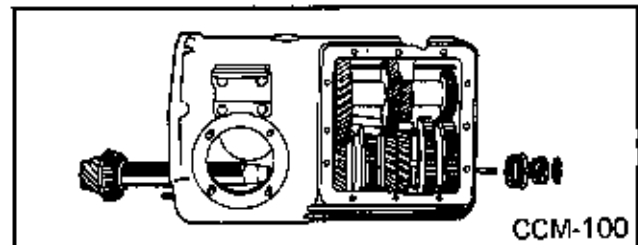

Fig. 95
3. Remove clutch housing assembly (complete) by removing eight (8) capscrews.
5. Remove two (2) wheel drive shaft bearing carrier assemblies.
8. Remove three (3) rear bearing cap and shims.
9. Remove pinion shaft nut, speedometer drive gear, rear bearing and shims. (Fig. 95)